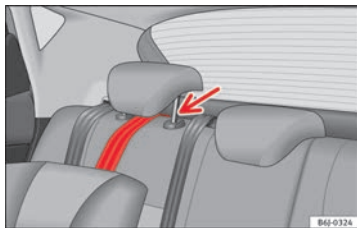

Fig. 32 Retainer strap: correct adjustment and fitting.
- Guide the Top Tether fastening belt under the rear seat head restraint ⇒ Fig. 32 (lift the head restraint where necessary).